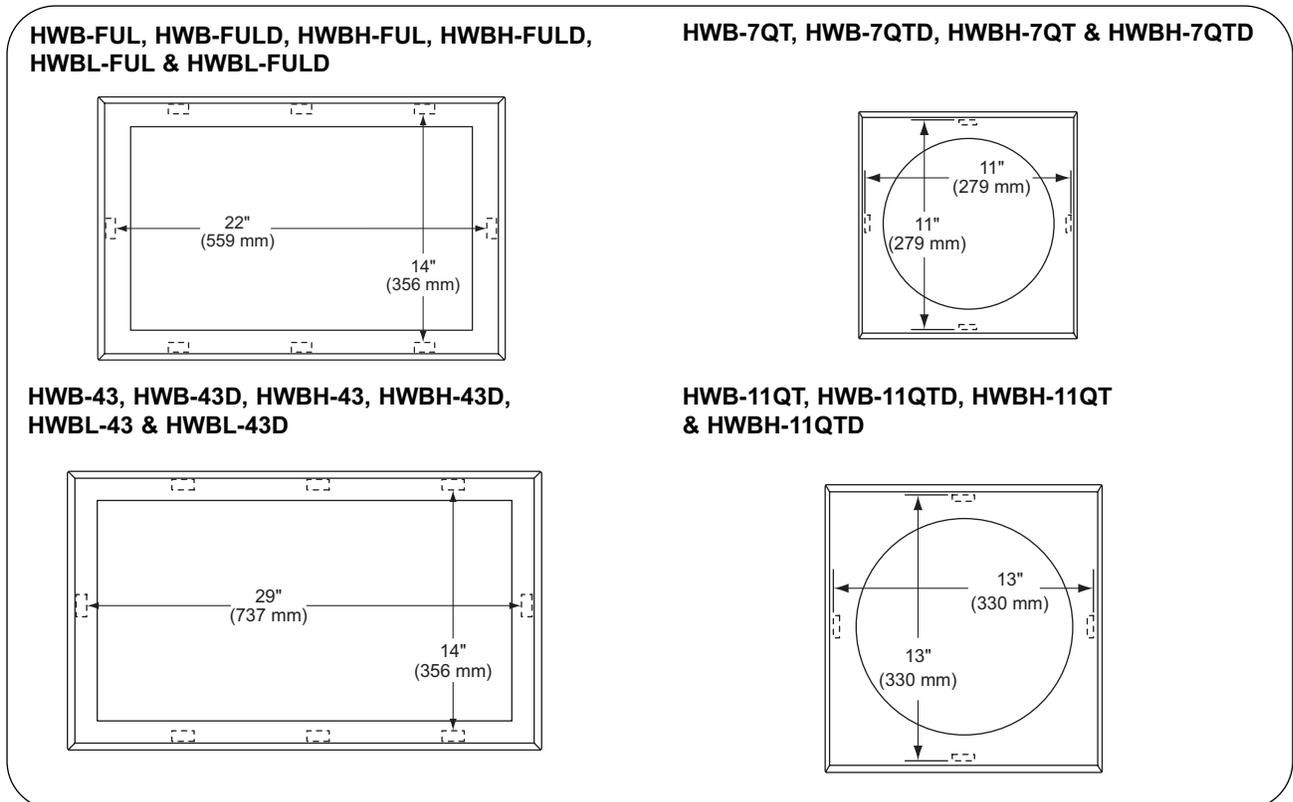

Figure 10. Combustible Countertop Mounting Templates
1. Cut appropriate opening in countertop. (See Figure 10 for size requirements.)